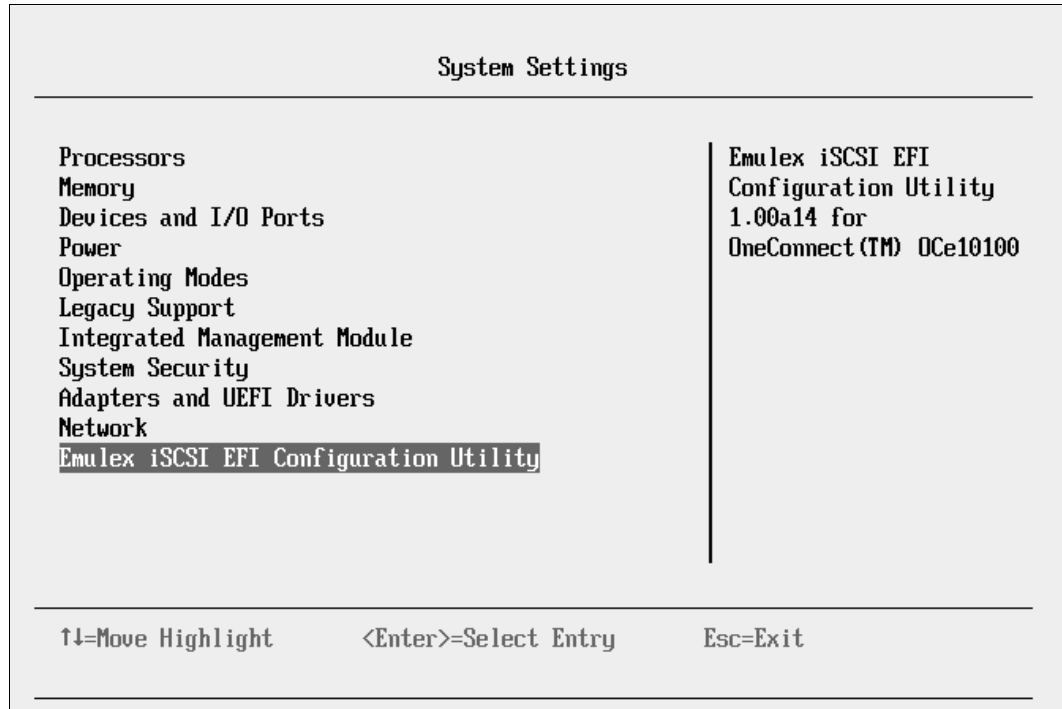

Figure 9-68 Selecting Emulex iSCSI EFI Configuration Utility on the System Settings panel
2. In the System Settings panel (Figure 9-68), select **Emulex iSCSI EFI Configuration Utility**, and then press Enter.